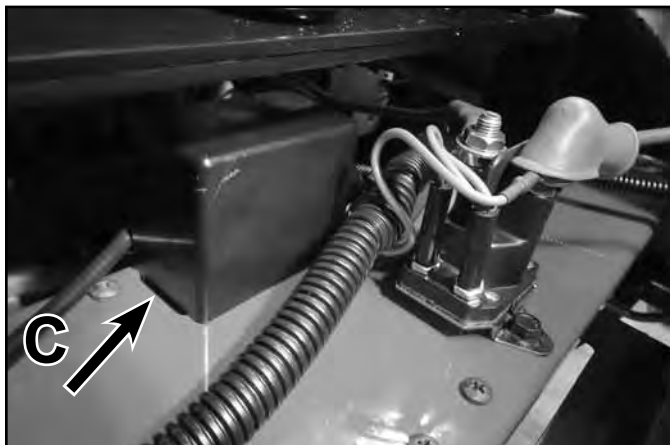

Fig. 159
3. Disengage the connector cover tab (C) and remove shield (Fig. 159).